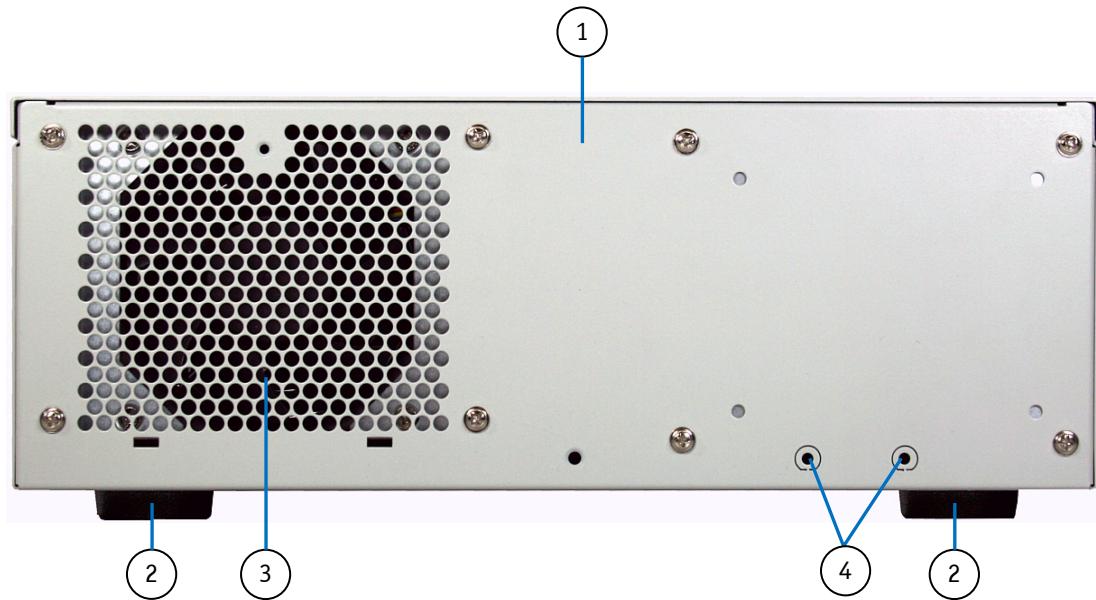

Fig. 12: Rear side of the KBox B-101
Outside a fire enclosure, the device may only be operated in horizontal position. A vertical operating position is only allowed if the device is installed inside a fire enclosure (also if wall-mounted). When switching on the KBox B-101, make sure that the air openings on the front side (Fig. 9, pos. 4) and the rear side (Fig. 12, pos. 3) of the chassis are not obstructed (covered) by any objects.